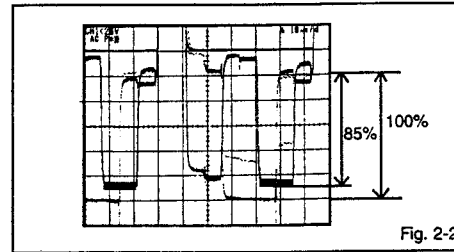

Fig. 2-2
6. Press the VOL. UP/DOWN button on the remote control until the red color level is adjusted to  $85 \pm 10\%$  for the white level. (Refer to Fig. 2-2)